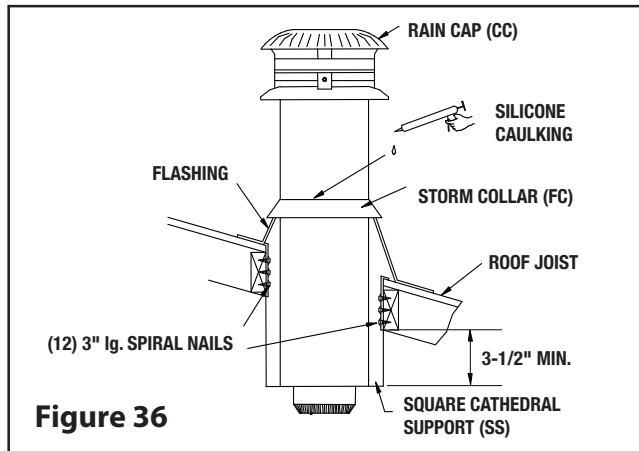

Figure 36
Step 2: From above, place the support in the opening. Lower it to proper height (see Figure 36).